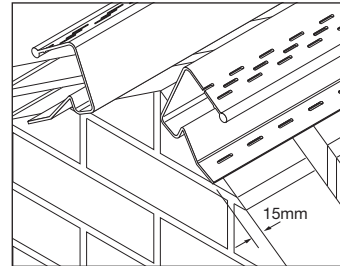

Fig. 7 – Detail at ridge
- 1 When used with the Marley dry ridge system the low profile batten sections should extend 15mm beyond the outer wall or outer edge of the bargeboard (Fig. 7).